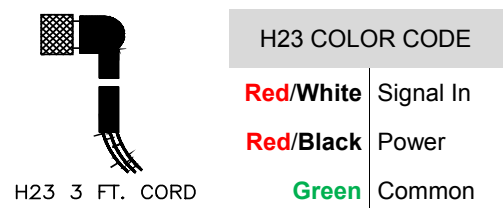

Figure 2
3. If another source of transducer is used, H23 cable must be ordered to facilitate connection of that source to the BVGX2. (Figure 2)
2. With the other lead, measure and record the resistance from each test point shown in figure 2. While measuring, adjust the potentiometer to the desired setting. Repeat for all potentiometers.